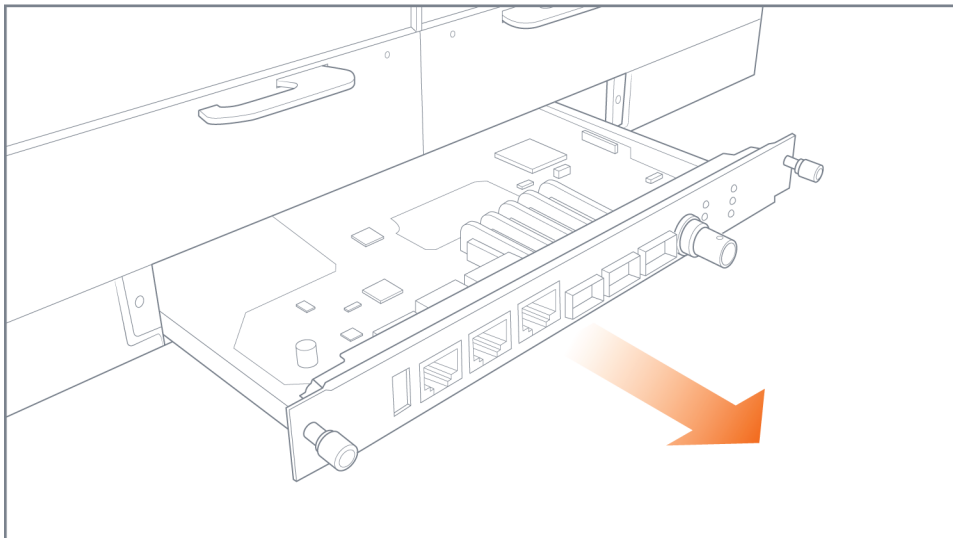

Figure 16 Extension Board Removal
4. Pull out the extension board as shown in Figure 16 Extension Board Removal.